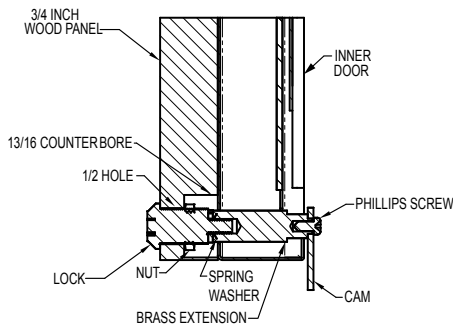

Figure 20
Two (2) lock extensions are provided with the lock. Use the longer extension for $\frac{3}{4}$ " thick overlay panels and the shorter one for $\frac{5}{8}$ " thick overlay panels. Assemble the lock extension, cam stop washer, spring washer, and set screw to the lock as shown in Figure 20 and 21.